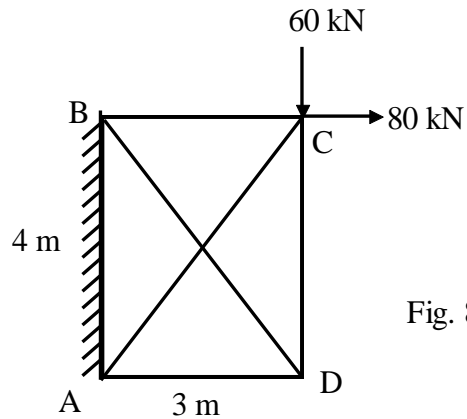

Fig. 8
8. Find the forces in the members of the truss as shown in fig.8. Use strain Energy Method. 16